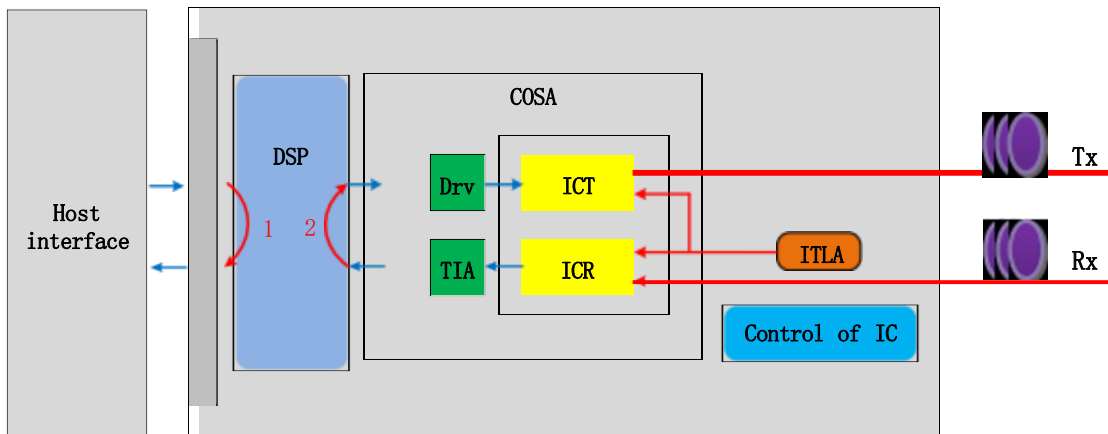

Figure 2: Module Loopback Orientation
The module support loopback functionality. The host loopback (Loopback ①) and the network loopback (Loopback ②) are shown at bellowing figure 2. For details on controlling the loopback mode, please refer to Reference [2]. In optional loopback, TXn is looped back to RXn, for example TX0+ to RX0+, on both host and media side.